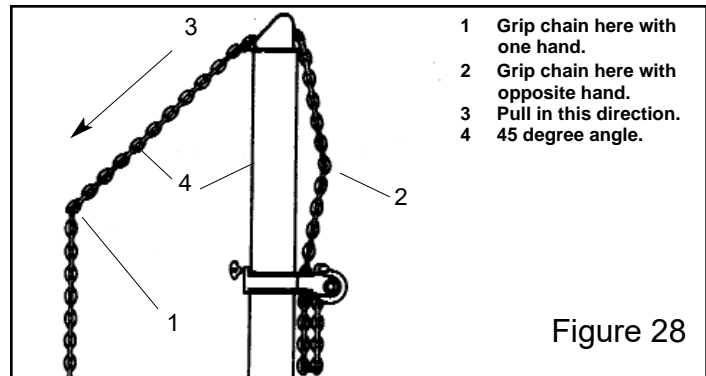

Figure 28
5. To adjust slack tower chain, grip chain on each side of the tower. Lift out on tail of chain until it is approximately 45 degrees from tower. Then disengage chain from tower head and pull chain to either increase or decrease amount of slack. (See Figure 28.)